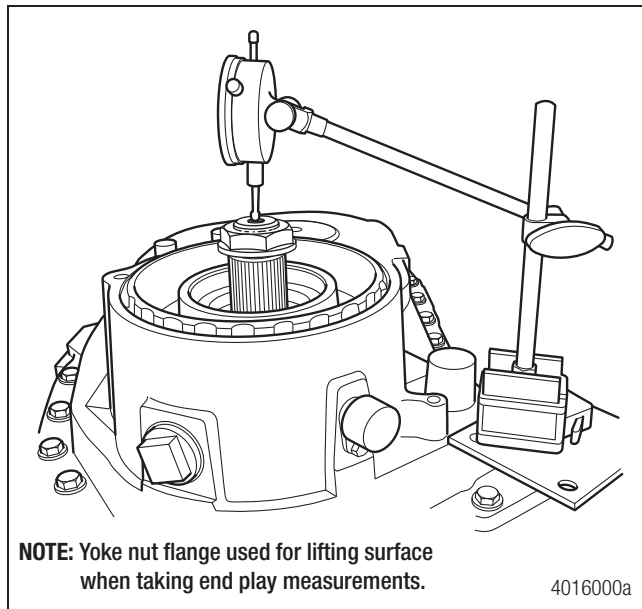
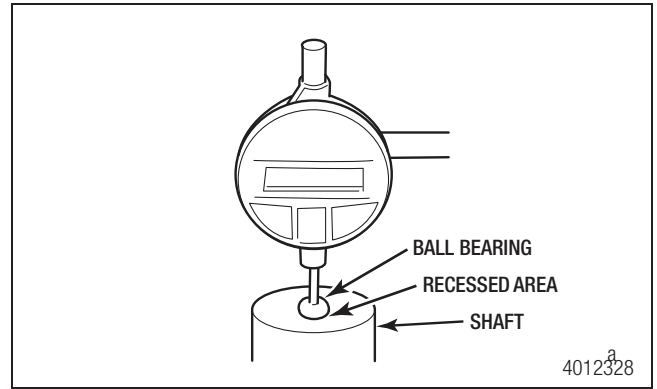

Figure 7.42
Figure 7.43
2. Use a dial indicator to check output shaft bearing end play. To mount the magnetic base of the dial indicator, install a steel plate on the housing as shown and secure it with a bolt. Center the dial indicator over the shaft. NOTE: For accuracy, place a ball bearing into the recess found on the end of the shaft, then place the tip of the dial indicator on top of the ball bearing. Figure 7.42 and Figure 7.43.